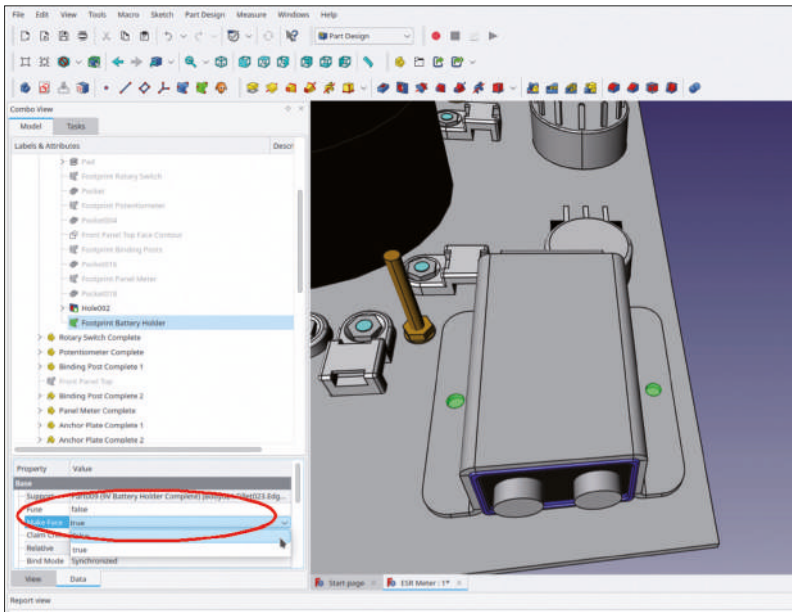

Figure 7-56
23. Rename the new shape binder (scroll back to the 'Front Panel' body object, the tree view keeps jumping) to 'Footprint Battery Holder'. In the property list, set the 'Make face' property to 'false' (Figure 7-56).